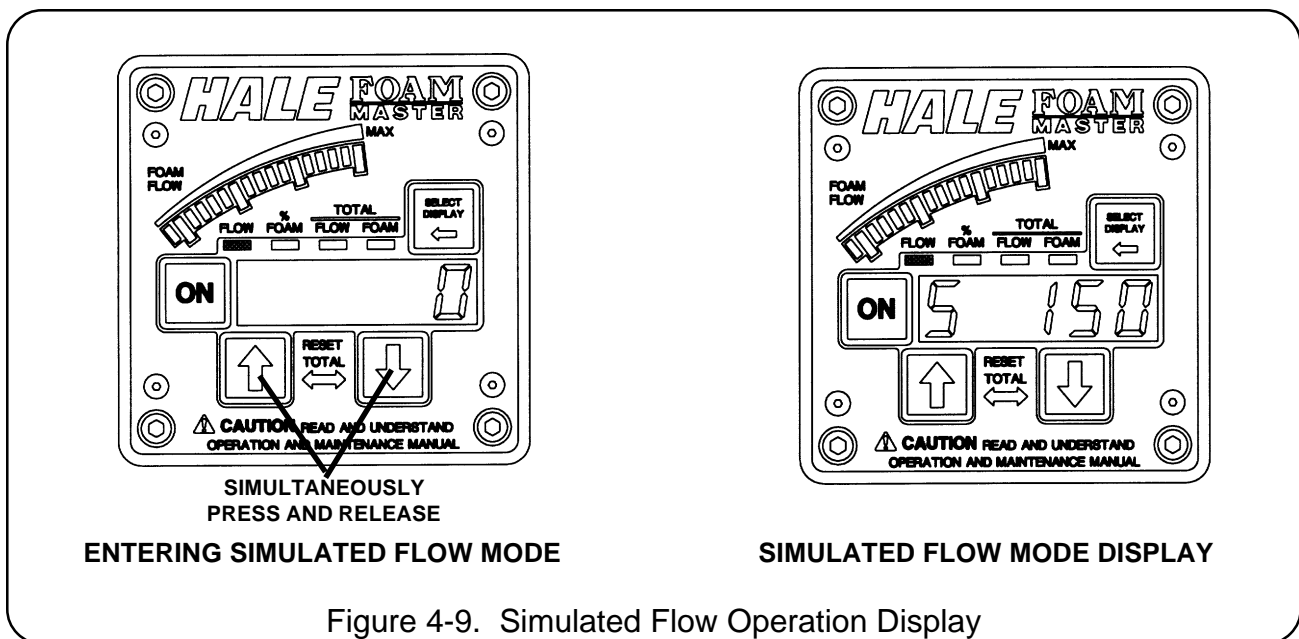

Figure 4-9. Simulated Flow Operation Display
4. When the Hale FoamMaster is in the standby mode, **FLOW** LED lit, depress and release the **↑** and **↓** buttons at the same time. The display will show "S 150" (or other pre-set default value) and the **FLOW** LED will be lit. (see figure 4-9)